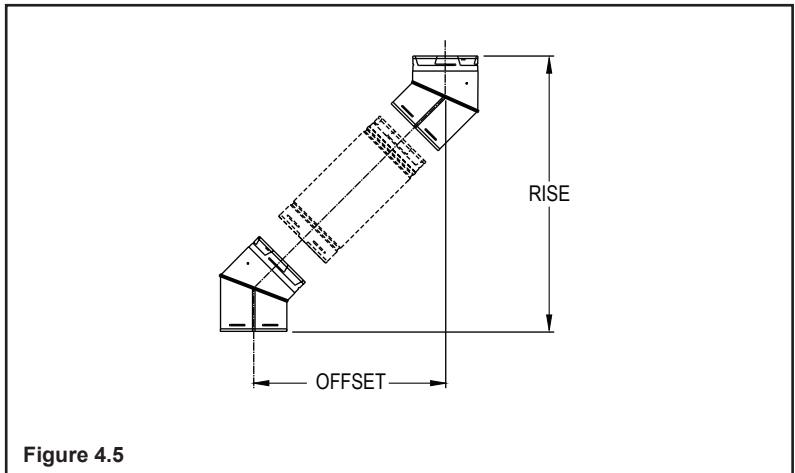

Figure 4.5
- Measure the shift required to avoid the overhead obstruction (Offset, Figure 4.5).
- The rise (see Figure 4.5) coinciding with the offset dimension measurement in Table 4.2 represents the required vertical clearance needed to complete the offset/return.